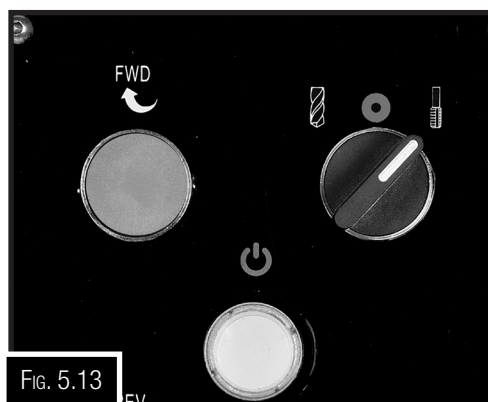

Fig. 5.13
6. Select the "tapping" mode with the drilling/tapping switch on the control panel (Fig. 5.13)